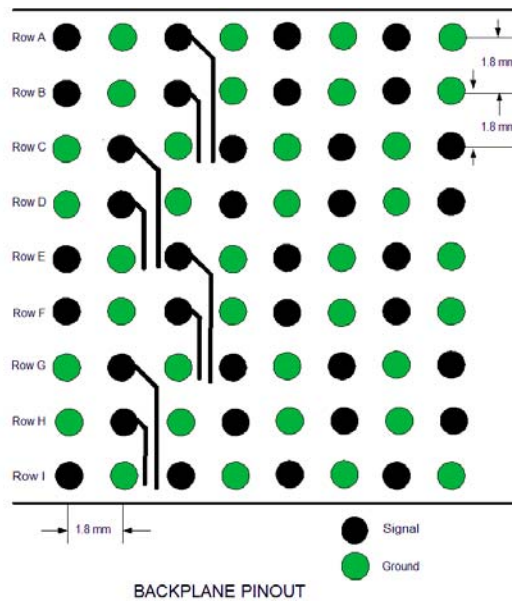

Figure 15. VIPER Backplane Hole Pattern – Differential
5.6.1.1 The available space for routing is determined by the distance between anti-pads. There is no secondary or vertical routing channel available on the daughtercard for differential pairs. Based on the VIPER 1.8mm (0.0709”) spacing, this would leave a routing channel of 22.9 mils. It is preferable to have a 3 or 4 mil edge-of-trace to edge-of-anti-pad space so that the pair is effectively referenced by the ground plane. This is shown below in Figure 15. Maintaining this 4 mil space on each side of the pair, the amount of space remaining for the differential trace pair itself would be 14.9 mils. Thus, a 5/6/5 pair (5 mil traces, 6 mil edge-to-edge space) would be a very reasonable design. Channel analysis and 3D modeling should be used to optimize link performance and anti-pad geometry for particular designs.